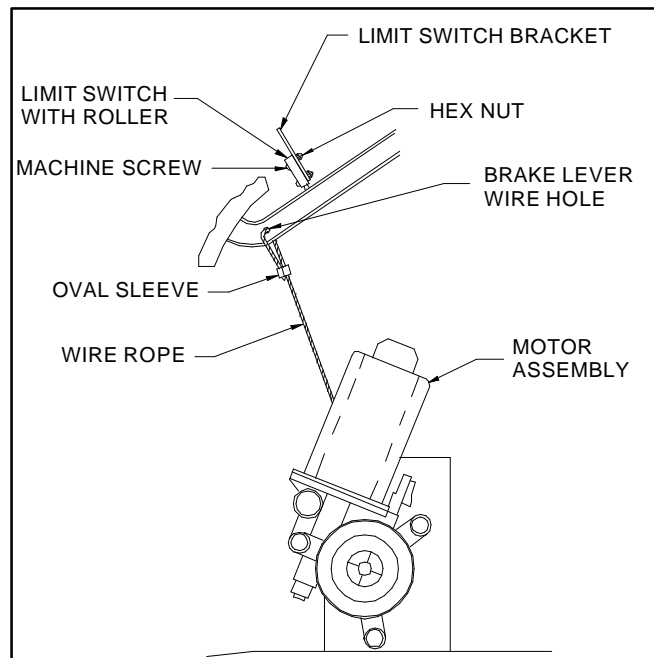

FIGURE 2-3: SIDE VIEW OF RIGHT-INSTALLED POWER PARKING BRAKE
1. Refer to **Figure 2-3**. If necessary, drill a 1/4" hole in the parking brake lever, just behind the pedal. This hole will be used to attach the wire cable.